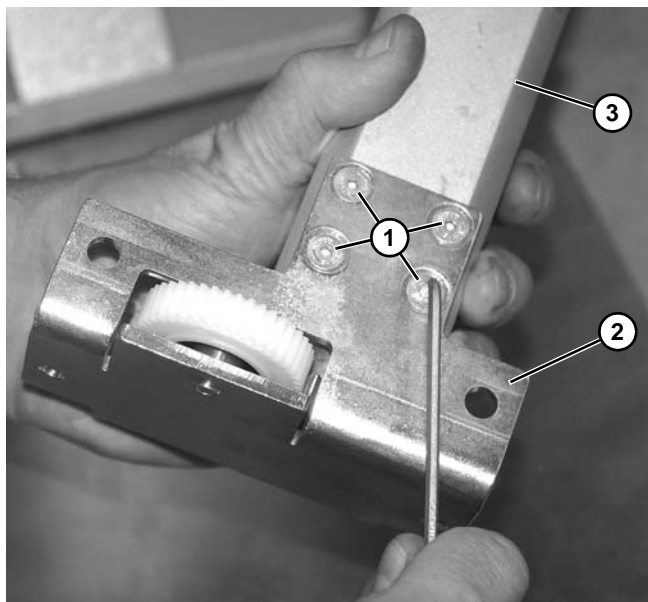

Figure 60
6. Remove four screws (Figure 60, item 1) and remove motor mounting bracket (Figure 60, item 2) from motor (Figure 60, item 3).